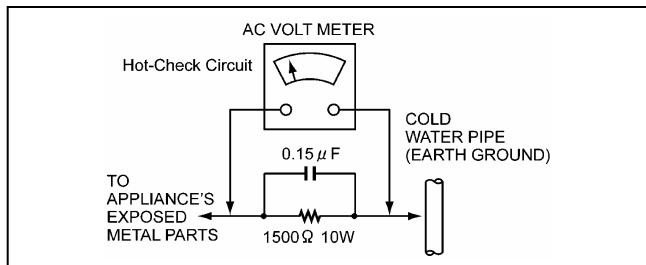

Figure1
LEAKAGE CURRENT HOT CHECK (See Figure 1)
2. Connect a $1.5\text{k}\Omega$, 10W resistor, in parallel with a $0.15\mu\text{F}$ capacitor, between each exposed metallic part on the set and a good earth ground such as a water pipe, as shown in Figure1.